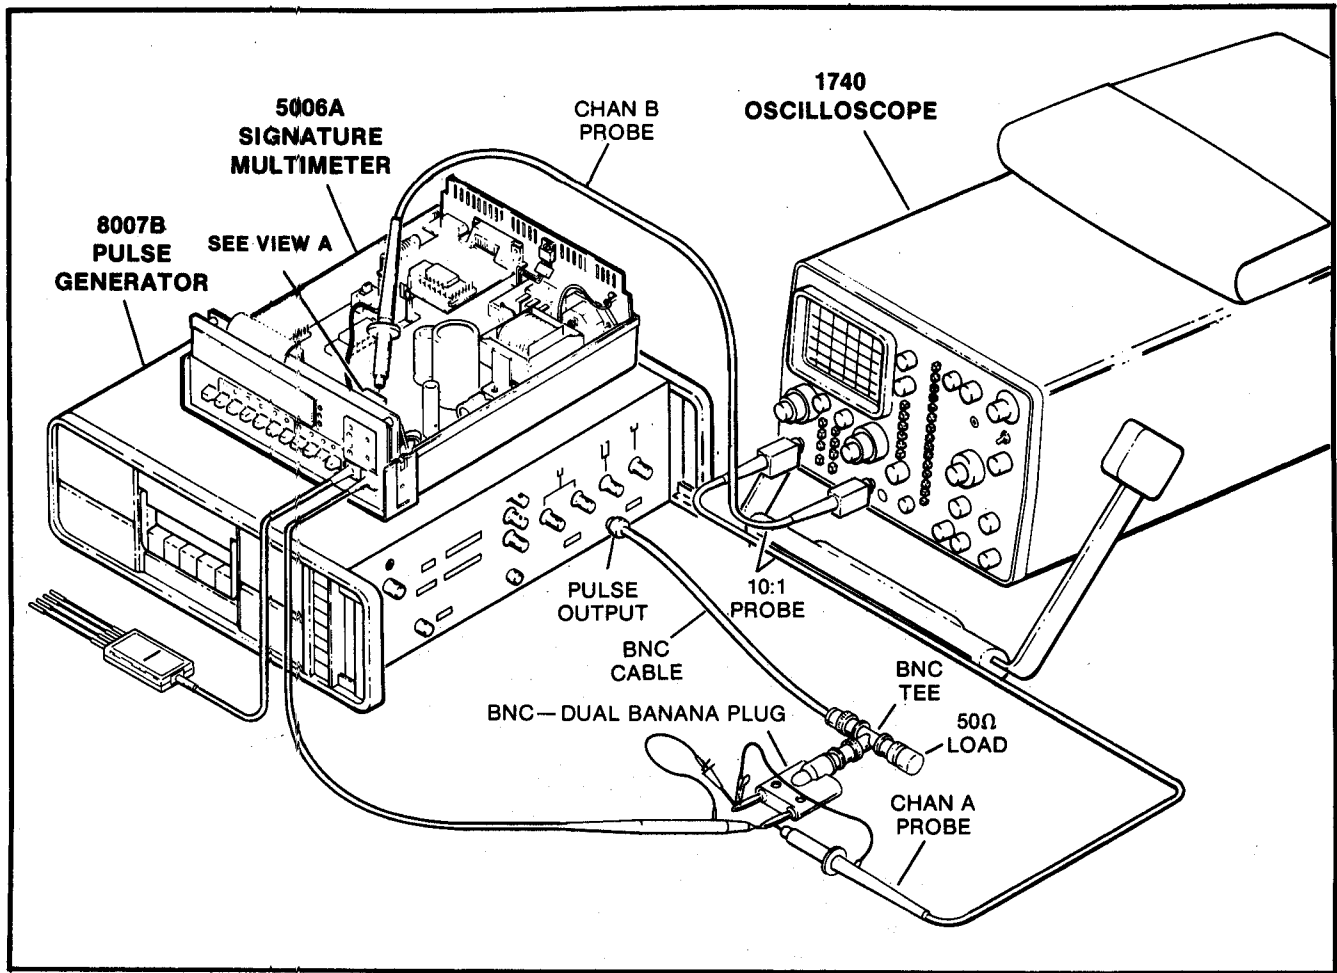

Figure 5-2. Input Compensation Adjustment Setup
- a. Set up the equipment as shown in *Figure 5-2*, using the shortest cables and ground leads available.